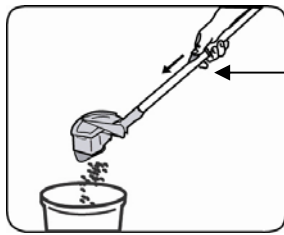

Fig. 10
2. Lift out the dust container, which is connected to the handle. Hold over a trash bin and push down on the no touch empty button located on the handle. (Fig. 10)